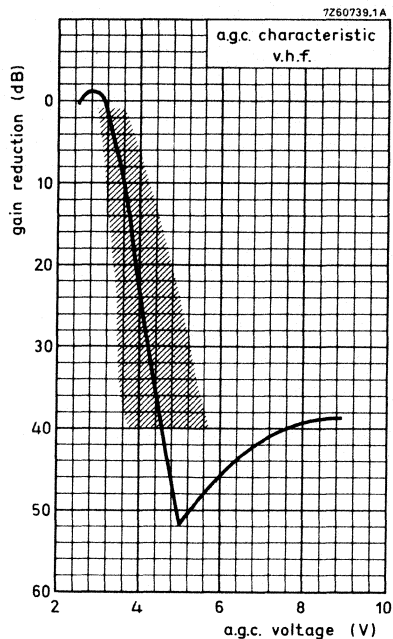

Fig. 5
A. G. C. voltage (Figs. 5 and 6)